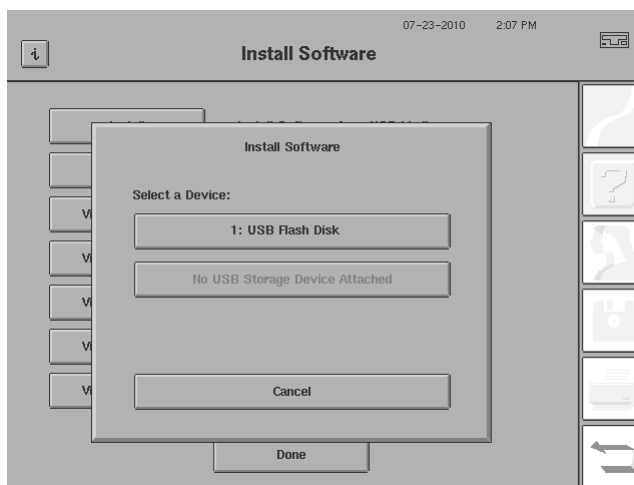

Figure J.4 Select USB Storage Device
- 4 A dialog appears prompting you to select a USB storage device (Figure J.4).